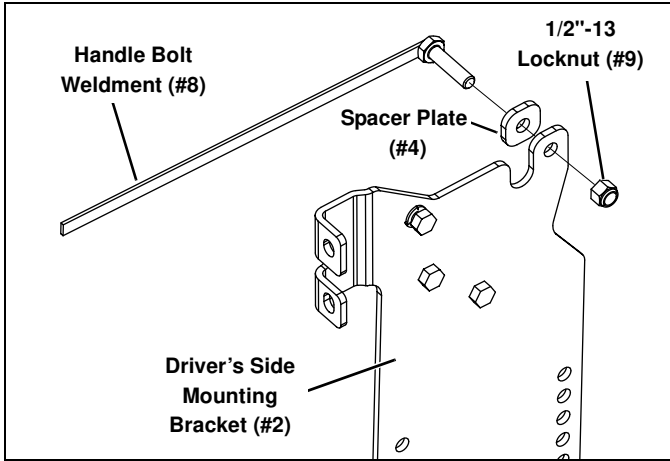

Figure 8
5. Align a Spacer Plate (#4) with the drilled hole, but between item #2 and the frame. Insert a 1/2"-13 x 2" Handle Bolt Weldment (#8) through the front of the vehicle frame, through the drilled hole, Spacer Plate (#4), and Driver's Side Mounting Bracket (#2). Secure with a 1/2"-13 Locknut (#9). Remove clamps and cut off any of the handle of item #8 sticking out the front of the frame rail. (See Figure 8.)